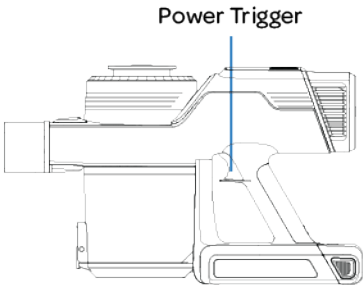

Figure 1
- 1. Squeeze and release the blue Power Trigger on the handle to turn on the Veridian Endeavor Plus vacuum (Figure 1). The vacuum continues to runs once the Power Trigger has been released.